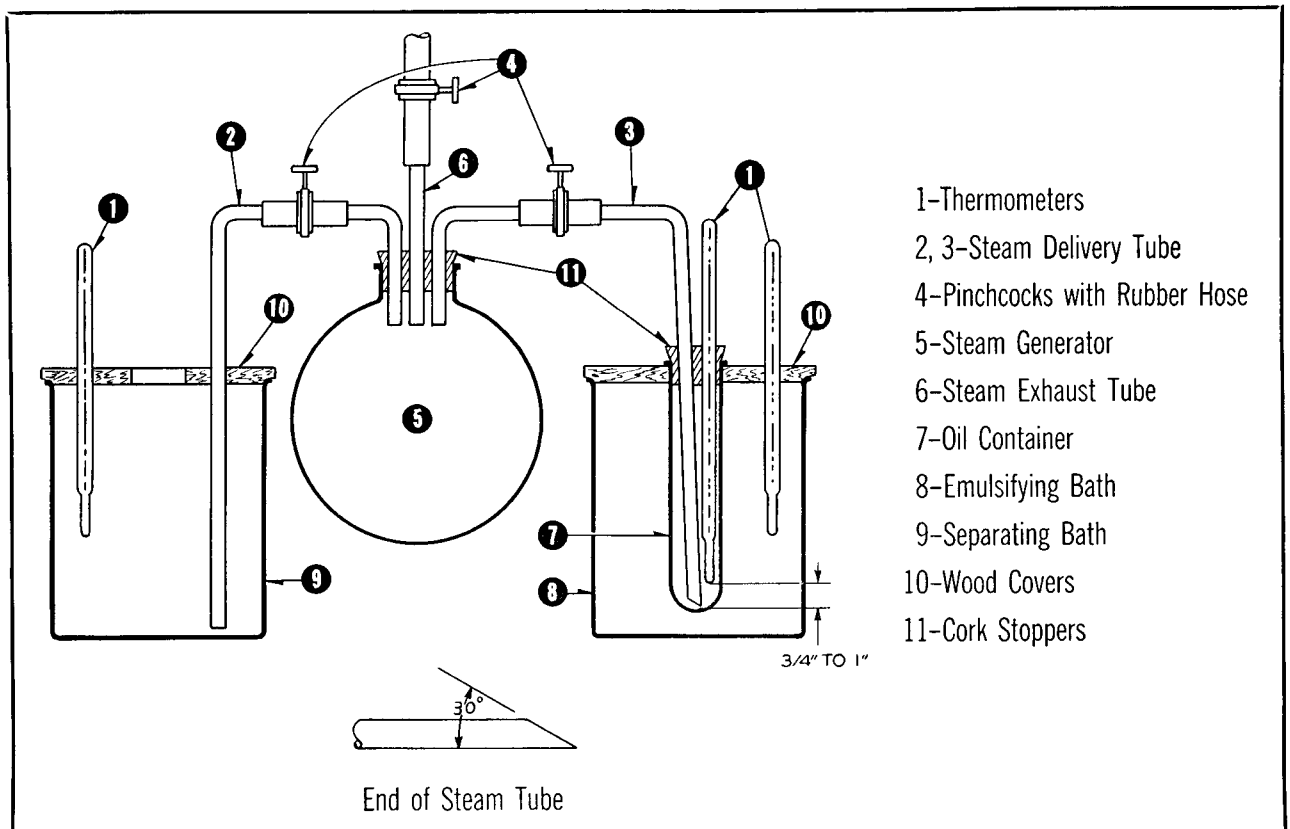

FIG. 7. Apparatus for S. E. Test
**Apparatus.** The steam generator (see Figure 7) shall be made of either metal or glass of at least one-liter capacity, capable of withstanding the heat necessary for continued use in the production of steam. It shall be fitted with three outlets with suit
**Procedure.** The apparatus shall be assembled as shown in Figure 7. The steam generator shall be filled one-half full of water and heat applied. The baths shall be filled with 3 liters plus or minus 60 cc of water. The temperature in the separating bath shall be raised to and maintained at 93.3 to 95 C (200 to 203 F).
The temperature of the emulsifying bath shall be brought to not less than 19.4 C (67 F) nor more than 25.6 C (78 F) at the start of the test, and is not controlled thereafter. Twenty cubic centimeters of the oil to be tested shall be measured in the oil container at room temperature and the latter placed in the holder of the emulsifying bath. The steam pipe, or delivery tube, shall be connected to the steam generator with suitable rubber tubing, and screw pinchcocks placed as shown in Figure 7.